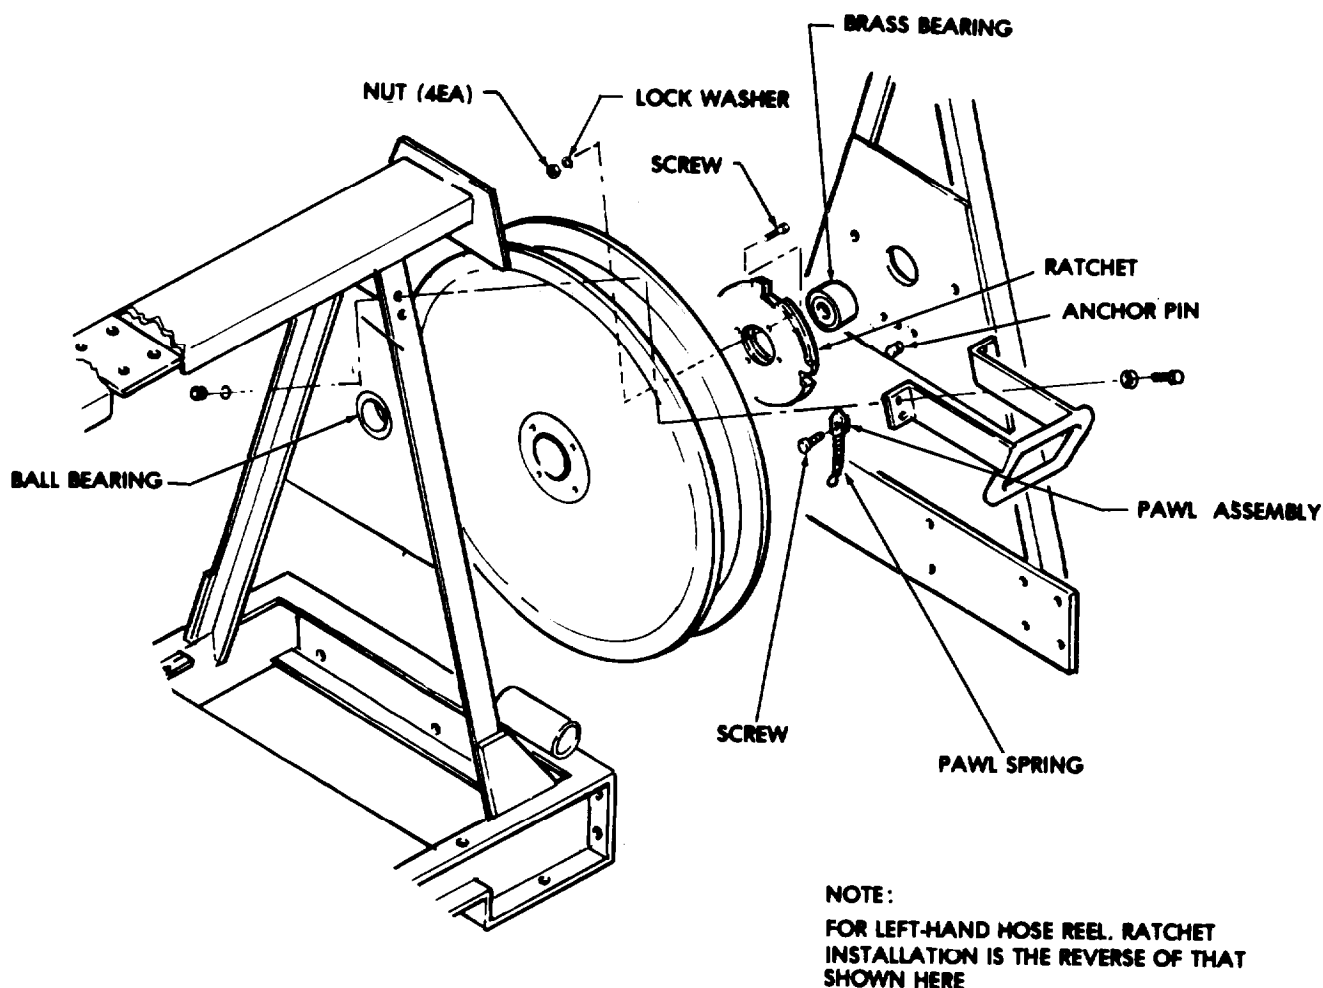

Figure 5-10. Hose Reel Ratchet and Pawl Assemblies.
- (1) Clean parts with drycleaning solvent (Item 1, Appendix E) .
- (2) Dry all parts thoroughly.
- (3) Inspect spring housing for broken welds, dents, distortion, and other damage.
- (4) Inspect the reel for leakage, distortion, dents, defective ratchet, pawl assembly, and other damage (Figure 5-10).
- (5) Replace a defective reel assembly.
- (6) Replace a defective hose reel spring housing or ratchet.